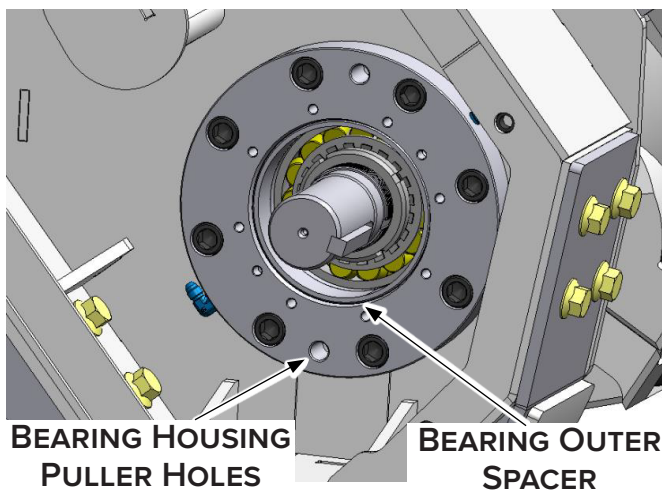

Figure 21
12. Apply lubricating oil on the threads of two (2) of the M16 bearing housing screws and use in the puller holes to separate the bearing housing away from the side wall along with the bearing and both inner and outer spacers inside the housing. See Figure 21.